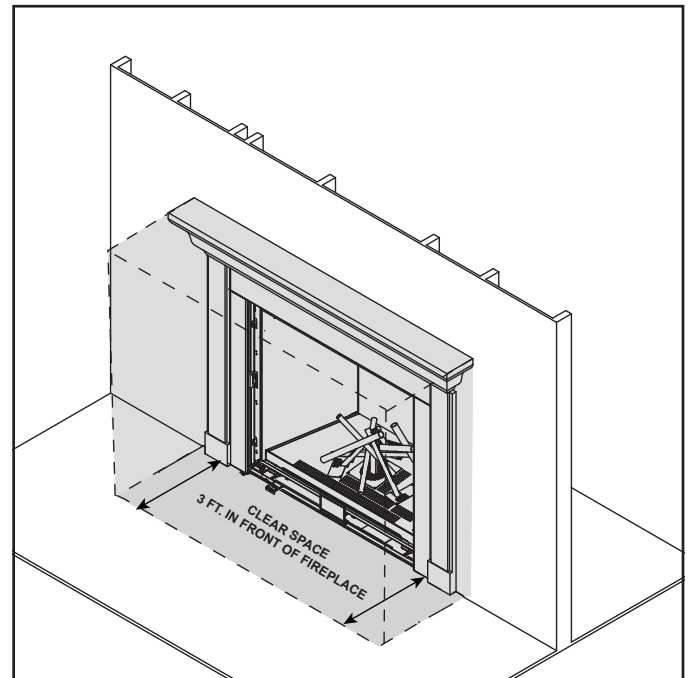

Figure 3.1 Clear Space Requirement - All Models
**WARNING! DO NOT place combustible objects in front of the fireplace or block louvers.** High temperatures may start a fire. See Figure 3.1.